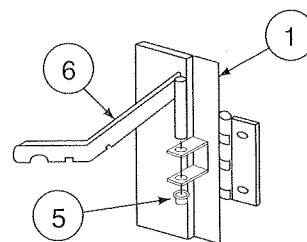

Figure 1
1. Assemble the CONTROL ARM onto the DAMPER ASSEMBLY using the cap provided in the FASTENER PACKAGE. See Figures 1 and 2.